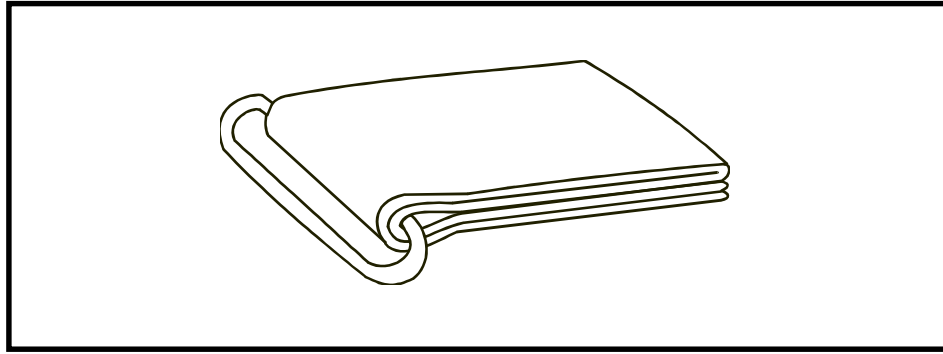

Figure 13-5. Type 4 fold
(4)..Type 4 Fold. Type 4 fold (Figure 13-5) is made by folding a piece of webbing that is four times as long as the planned chape. To make a type 4 webbing fold--